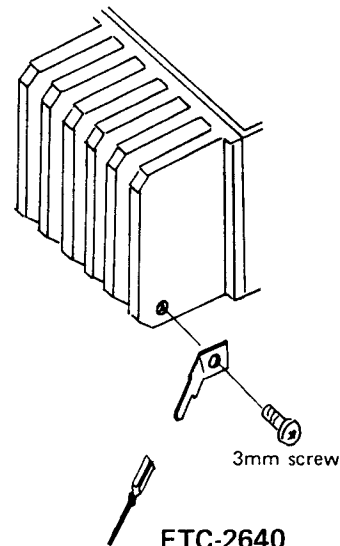

Figure 1-3
- (2) Refer to the interconnection diagram (Page 2-10), and hook up the wires as shown. The two heavy red wires (bare ends, with no connector) should be wired in parallel with the main steering wheel horn switch of the car. The three leads from the molded connector are connected as follows: the white lead goes to the FTC-2640 HORN RELAY terminal (Figure 1-3); the red lead goes to an auxiliary post on the fuse block, if one is available (10 amp fuse is OK); the black lead goes to ground.